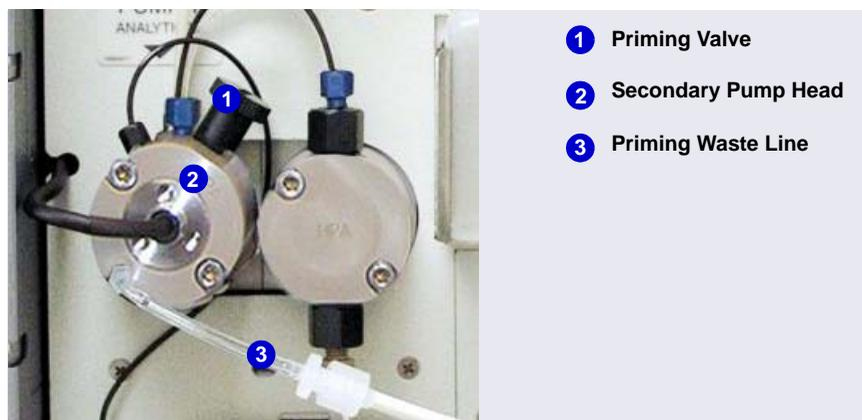

Figure 3-35. DP/SP Priming Valve
2. Place the waste line from each pump priming valve (see Figure 3-35) into a waste container or appropriate drain.
3. Open the priming valve on the secondary pump head (see Figure 3-35) by turning the knob one-half turn counterclockwise.